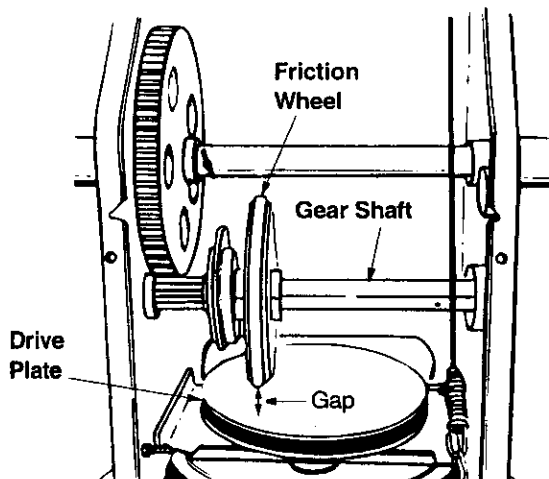

Figure 20
- When the traction control is released, there must be clearance between the friction wheel and the drive plate in all positions of the shift lever. When the traction control is engaged, the friction wheel must contact the drive plate. See Figure 20.